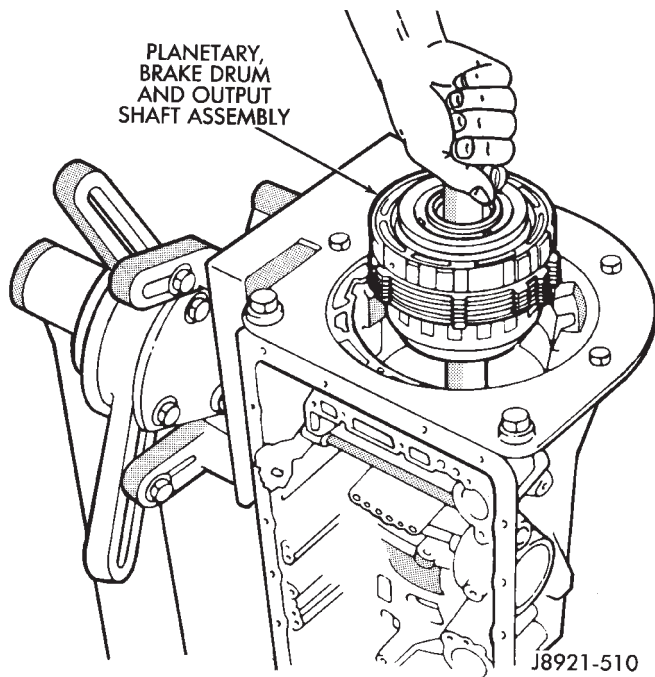

Fig. 45 Removing Rear Planetary, Second Brake Drum And Output Shaft
(54) Remove rear planetary gear, second brake drum and output shaft as an assembly (Fig. 45).